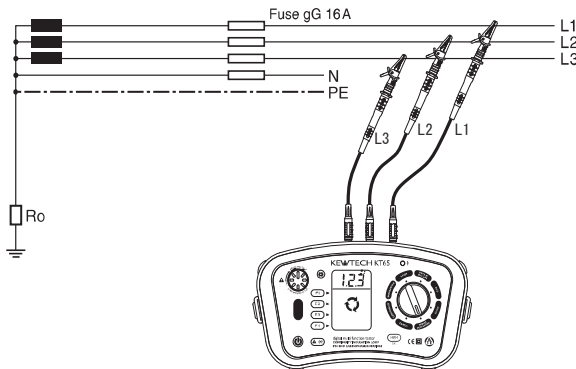

Fig. 47
3. Connect each test leads to a circuit. (Fig.47)